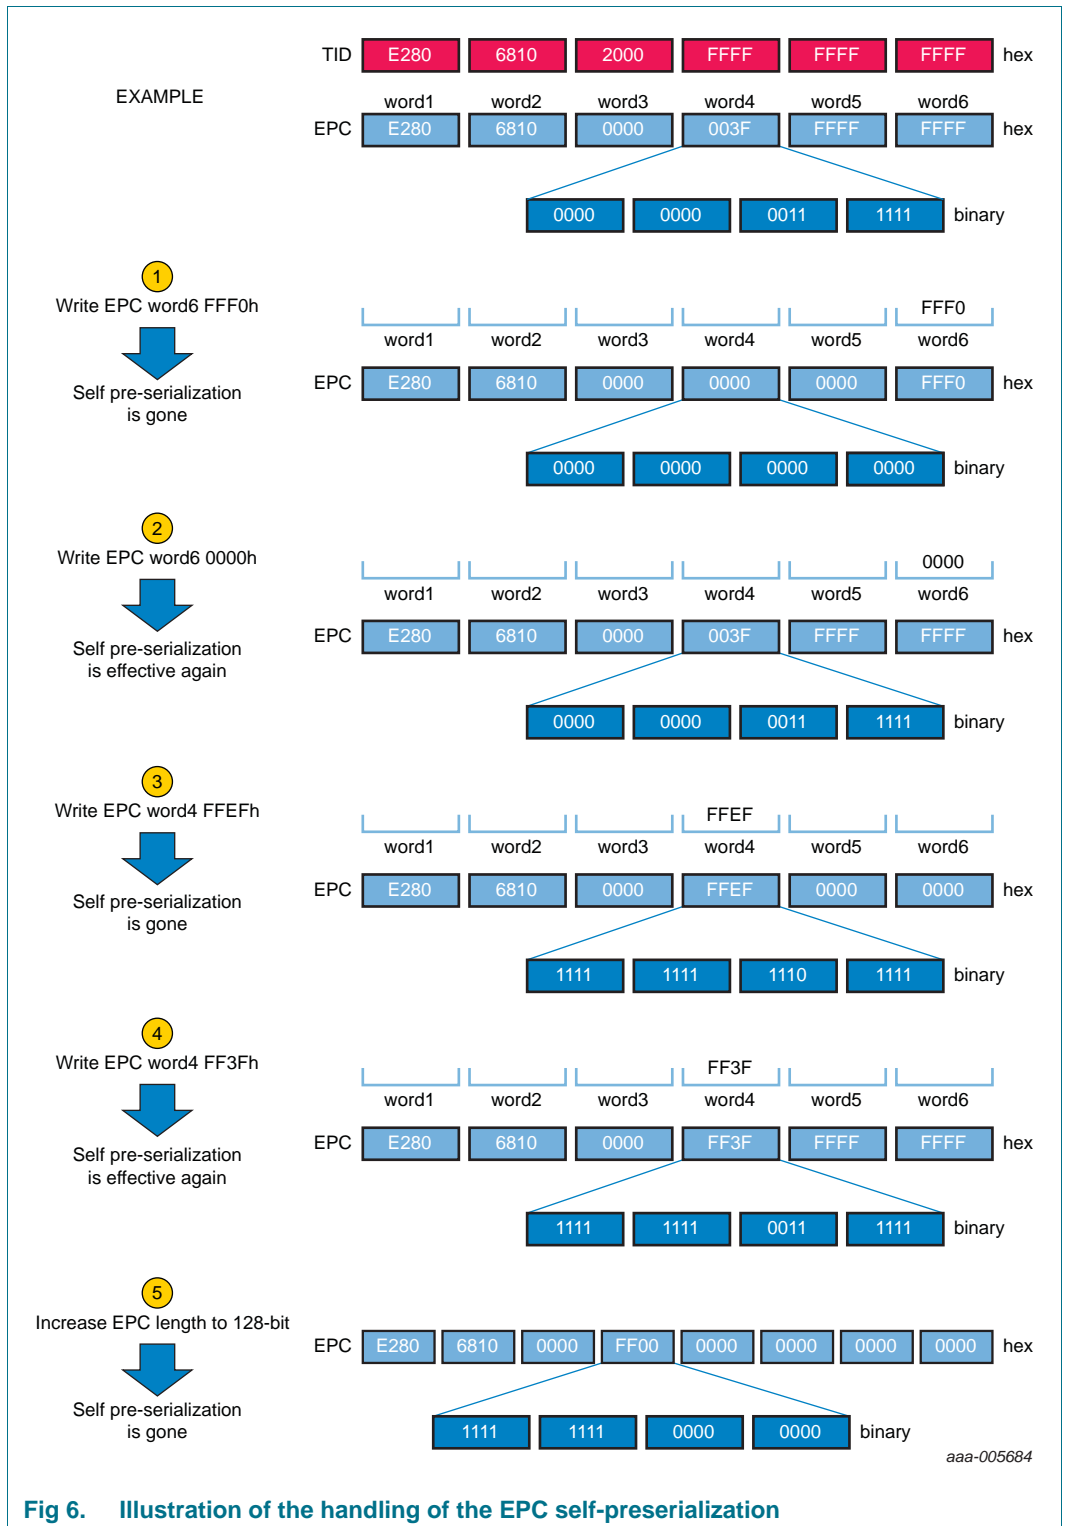

Fig 6. Illustration of the handling of the EPC self-preserialization
- Erase sixth and fifth word of the EPC to “00 00h” and keep the content of the lower 6 bits of the fourth word of the EPC at its serialized content (see Figure 6).